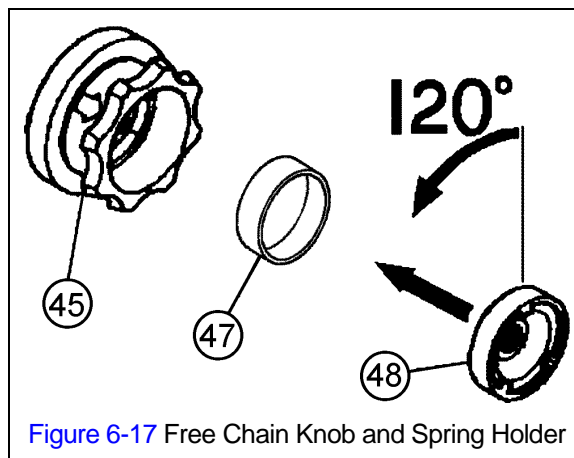

Figure 6-17 Free Chain Knob and Spring Holder
5) The Free Chain Spring is **NOT USED** for the LB OF version. Proceed to step 6 for the installation of the Collar. The Collar takes place of the Free Chain Spring. Refer to Figure 6-17.
- 6) Place the collar (47) inside the free wheel knob (45). Install the spring holder (48) onto the pinion serration and hold it in place. Refer to Figure 6-17.
- 7) While holding the (48) Spring Holder in place, fasten it in place with the (49) Slotted Nut and (50) Split pin.